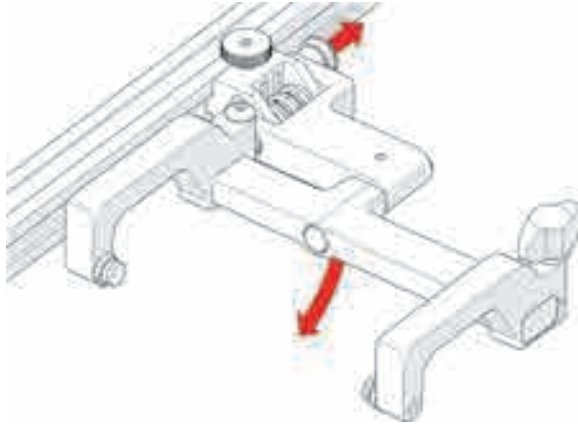

Figure 4-76 Lift and pull latch
2. Lift the probe holder slightly and pull the latch to release the probe holder's spring tension (see Figure 4-76 on page 150).